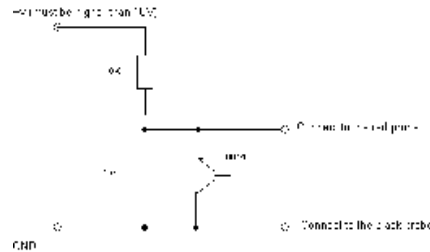
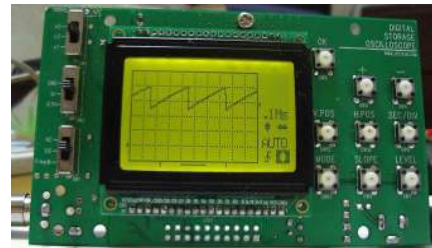

Fig. 4
Fig. 5
Fig. 4 is a simple saw signal generator. We can use the scope to observe its output. Build the circuit according to Fig. 4 and connect power and the scope.
- 2) Connect probes as shown in Fig. 4. Power the circuit. You should see a waveform similar to that shown in Fig. 5.